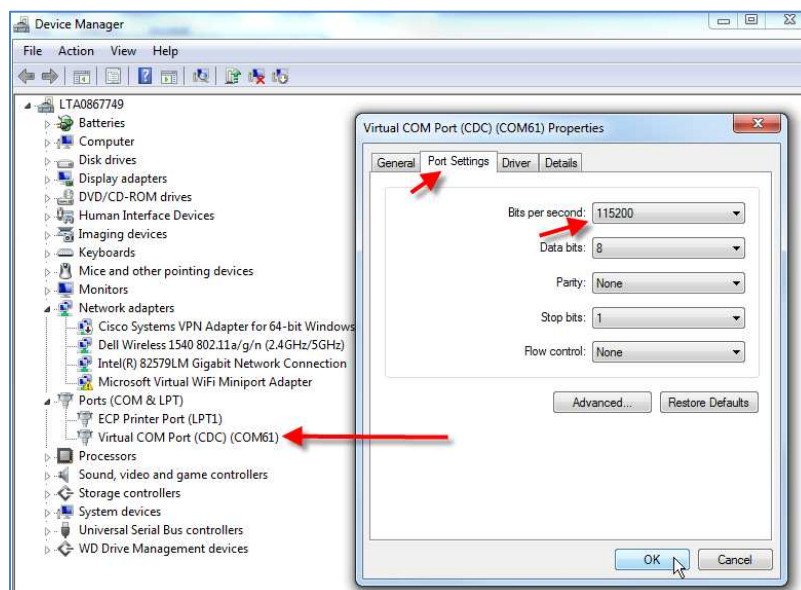

Figure 17.
1. Proceed to the Device Manager from the PC Control Panel to determine which COM Port the board has enumerated; that port information is needed to configure the COM port correctly. This step will only need to be done the first time the board is enumerated on a given PC system. The board will enumerate as a virtual COM port (USB CDC). in the example shown in Figure 17 the virtual COM port is shown as COM61.